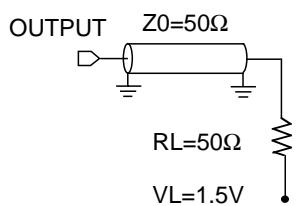
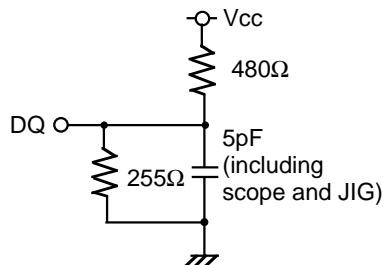

Fig.1 Output load
Fig.2 Output load for t_{en}, t_{dis}
Output loads $\dots\dots\dots\dots\dots\dots\dots$ Fig1 ,Fig2
5. Transition is measured $\pm 500\text{mV}$ from steady state voltage with specified loading in Figure 2.